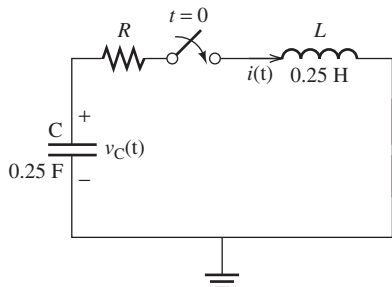

FIGURE P5.44 Circuit for Problem 5.44.
5.44 (A) Consider the circuit shown in Figure P5.44. The switch closes at $t = 0$, after the capacitance is fully charged $v_C(0^-) = 6$ V: